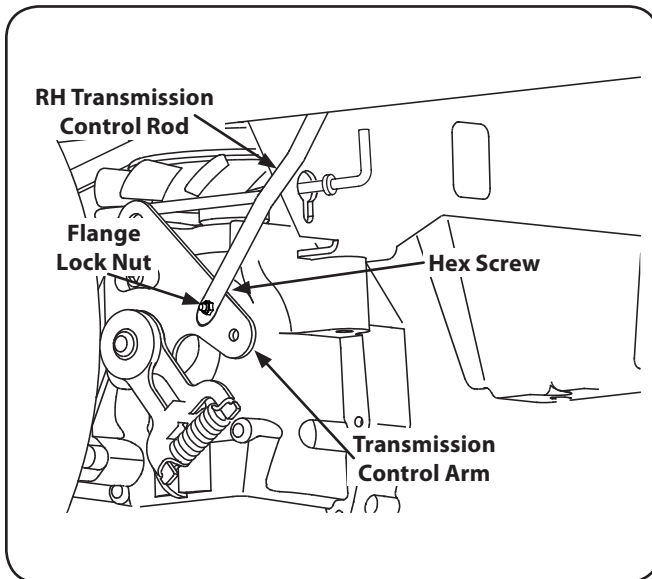

Figure 7-9
4. If only one wheel is rotating, locate the transmission control rod beneath the frame at the front of the rear tire. If both wheels rotate, locate both control rods. See Fig. 7-9.